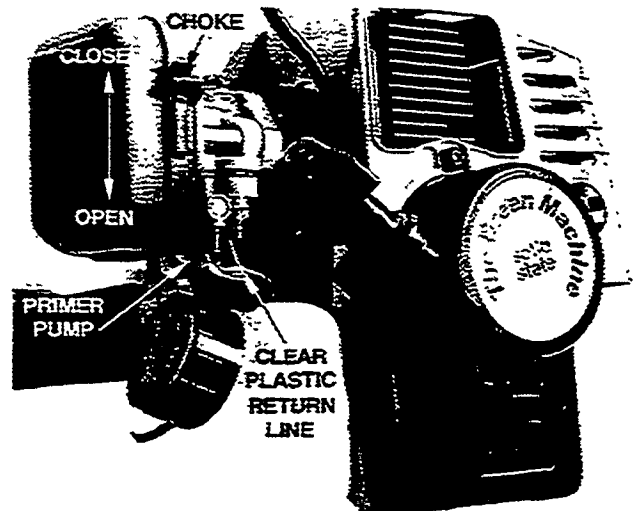

Figure 5
- Push the primer pump until fuel flows through the clear plastic return line (**Figure 5**).
- Place choke lever in the closed position (**Figure 5**).